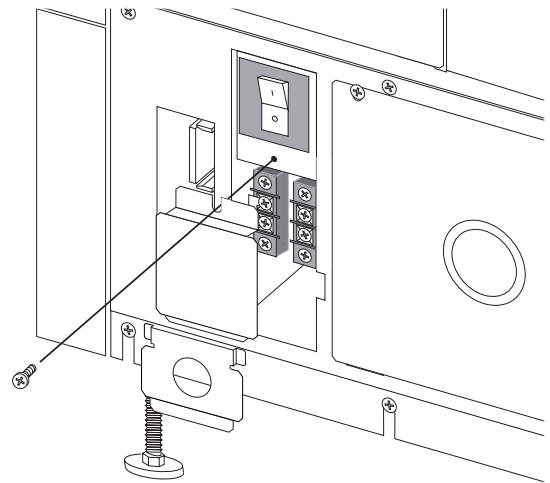

Fig 4-8 Removal of REPO Wiring Panels
1. Refer to figure 4-8. Remove the screw holding the two-piece access panel at the rear of the Power Array. Remove the panel. Set the screw and the panel pieces aside.